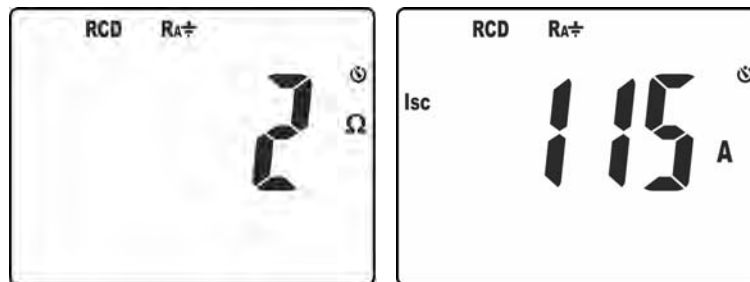

Fig. 22: Results of measurement of overall earth resistance
9. The screen in Fig. 22 – left side shows the value of overall earth resistance. Press keys  $\blacktriangledown/\text{lightbulb}$  or  $\blacktriangle$  to display the value of assumed short-circuit current **Isc** (see § 9.3)